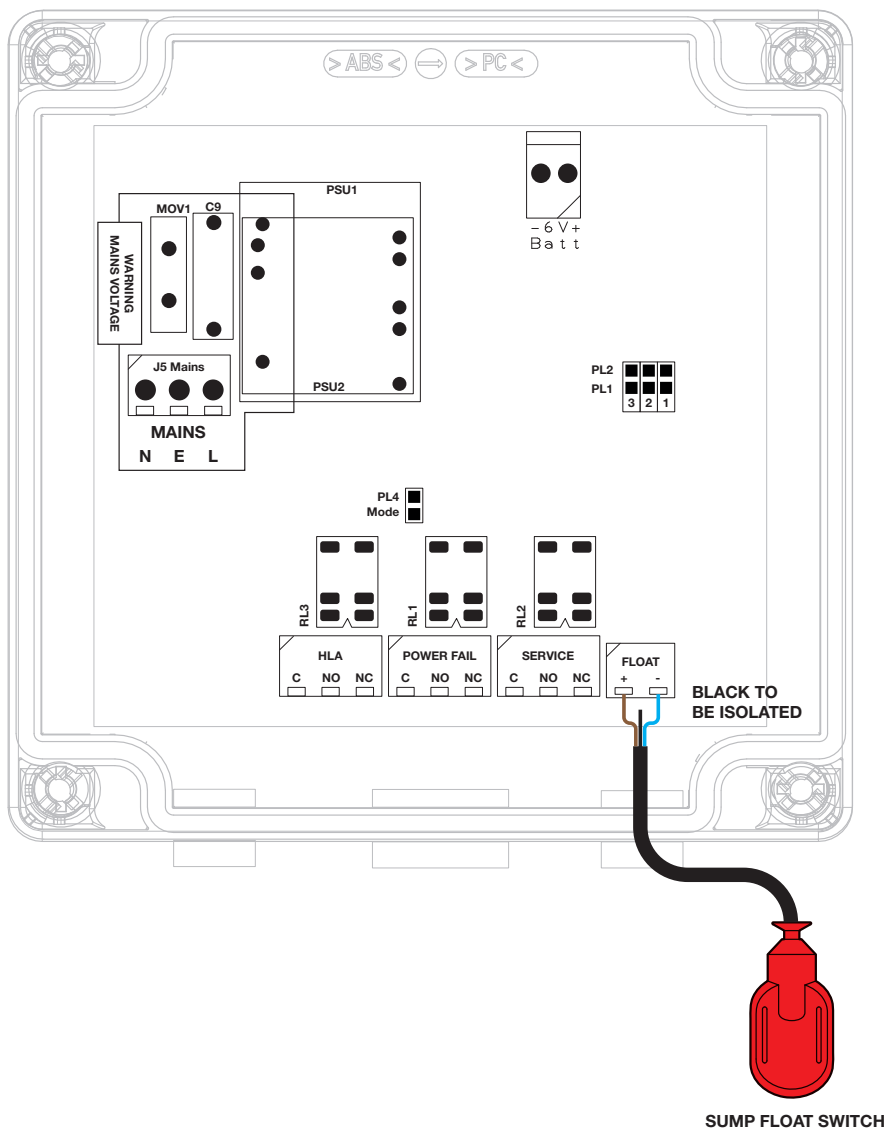

Figure 9. Connecting the sump float to the Delta HLA.
3. Connect the brown core to positive and the blue core to the negative terminal, as shown in Figure 9.